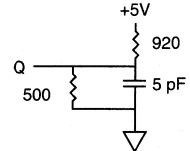

Fig. 2 OUTPUT LOAD EQUIVALENT
6. ^tHZCE, ^tHZWE and ^tHZOE are specified with C_L = 5pF as in Fig. 2. Transition is measured ±500mV from steady state voltage.